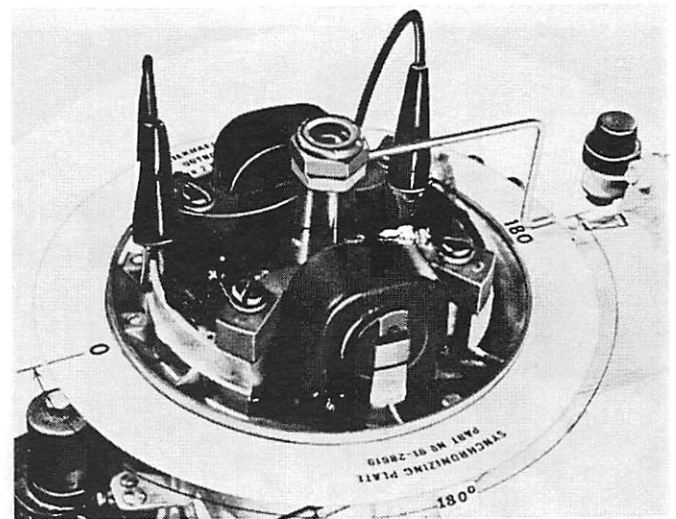
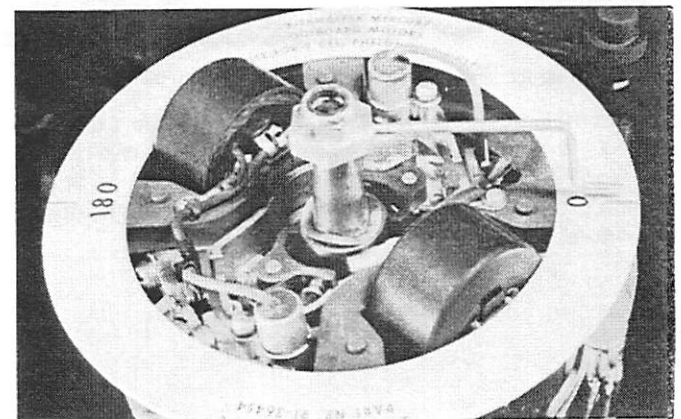
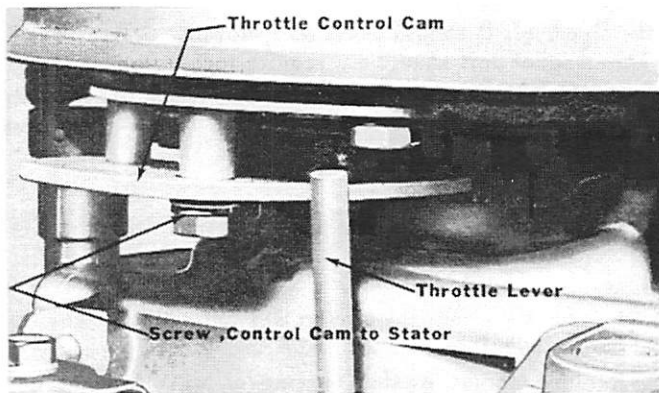

Figure 23. Degree Plate C-91-28619A1 on Stator
Figure 23A. Degree Plate C-91-36454A1 on Stator
Figure 24. Cam Touches Pickup Lever
1. Place correct Synchronizing Plate on rim of stator plate. Use C-91-28619A1 plate on early type Phelon magneto (Figure 23) and C-91-36454A1 plate on late type Phelon magneto (Figure 23A). Move stator to position where magneto cam touches carburetor pickup lever. (Figure 24) Leave stator set at this position throughout rest of settings.